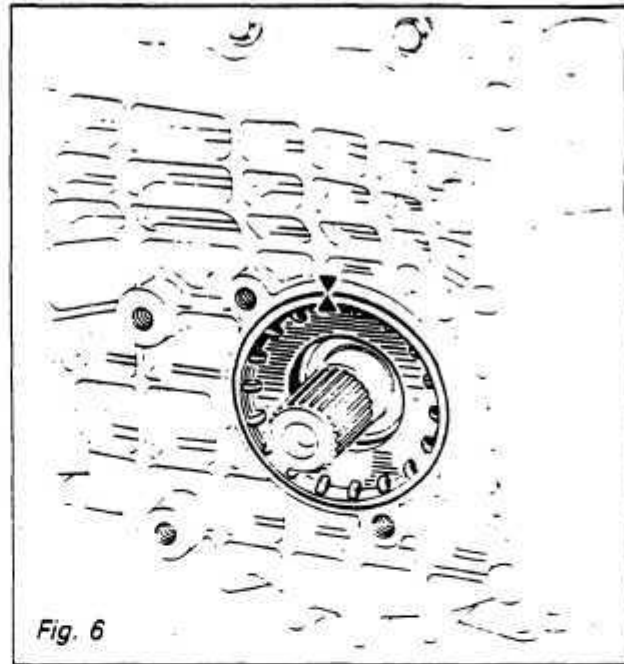

Fig. 6
- (1) Index mark the adjusting nut and transmission case for reinstallation. Remove the differential adjusting nut lock plate. (Fig. 6)